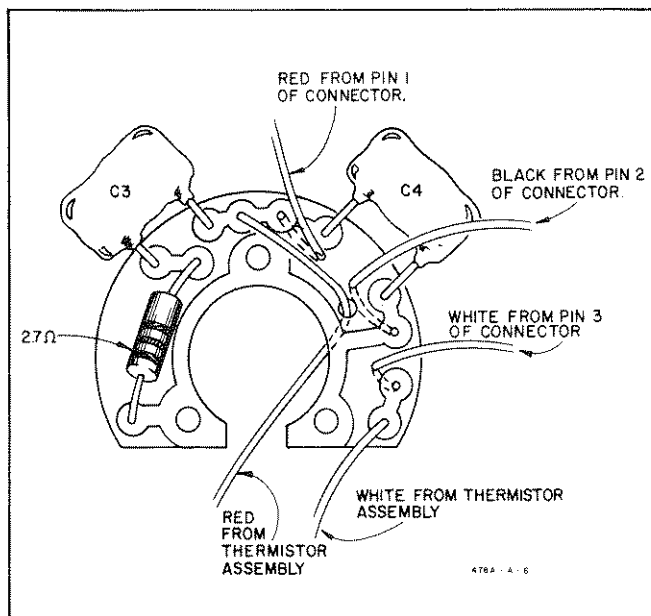

Figure 10. HP Model 478A Printed Circuit Assy
a. Referring to Figure 10, connect the three wires from receptacle connector to printed circuit assembly.
c. Pass the red wire from the thermistor assembly through the hole indicated in Figure 10. Do not connect to printed circuit assembly at this time.